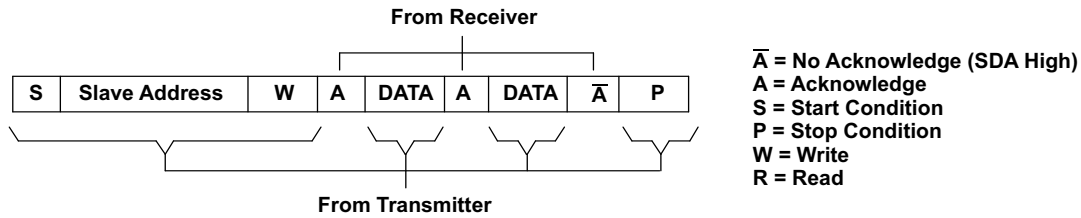
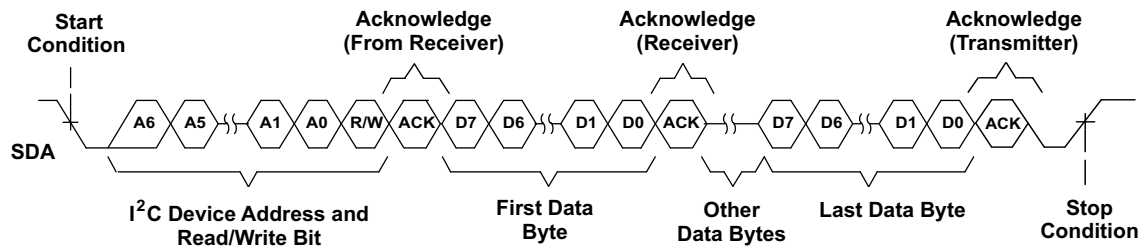
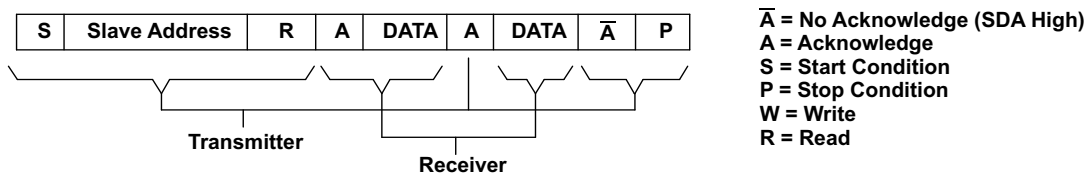
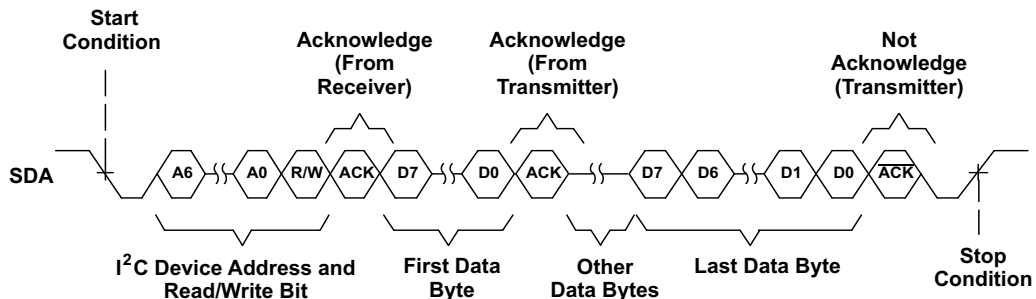

Figure 62. I2C Write Cycle
Figure 63. Multiple Byte Write Transfer
Figure 64. I2C Read Cycle
Figure 65. Multiple Byte Read Transfer
During a write cycle, the transmitting device must not drive the SDA signal line during the acknowledge cycle, so that the receiving device may drive the SDA signal low. After each byte transfer following the address byte, the receiving device pulls the SDA line low for one SCL clock cycle. A stop condition is initiated by the transmitting device after the last byte is transferred. An example of a write cycle can be found in Figure 62 and Figure 63. Note that the THS7313 does not allow multiple write transfers to occur. See example section – Writing to the THS7313 for more information.
acknowledges data bytes sent by the slave. When the master has received all of the requested data bytes from the slave, the not acknowledge (A) condition is initiated by the master by keeping the SDA signal high just before it asserts the stop (P) condition. This sequence terminates a read cycle as shown in Figure 64 and Figure 65. Note that the THS7313 does not allow multiple read transfers to occur. See example section – Reading from the THS7313 for more information.
The THS7313 operates using only a single byte transfer protocol similar to Figure 62 and Figure 64. The internal subaddress registers and the functionality of each are found in Table 2. When writing to the device, it is required to send one byte of data to the corresponding internal subaddress. If control of all three channels is desired, then the master has to cycle through all the subaddresses (channels) one at a time, see the example section –*Writing to the THS7313* for the proper procedure of writing to the THS7313.